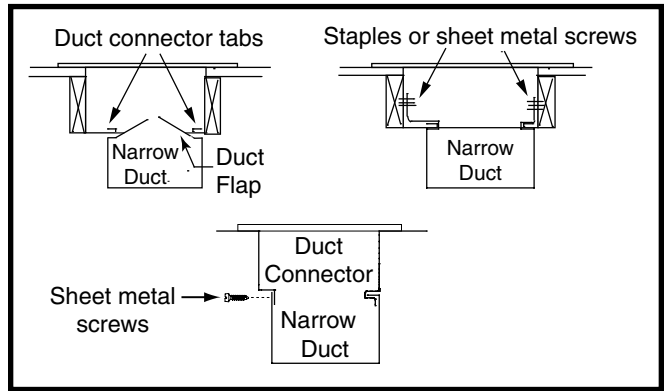

Figure 12. Narrow Ducts
4. Bend the tabs on the bottom of the duct connector upwards and as tight as possible against the supply air duct. See Figure 12 (page 9).